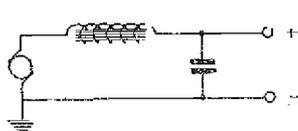
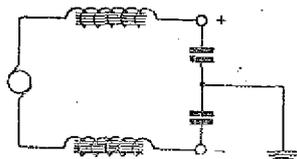

Fig. 1.—A simple method of reducing interference from a direct current machine.
Fig. 2.—Another filter circuit. Add another section if necessary.
From the circuit (Fig. 1) it will be seen that a loose coupled aerial tuner is used, and by means of "U" links the inductance valves of both aerial and closed circuits can be varied. Additional plug-in coils may be inserted in holders to extend the wave range to the broadcasting band and beyond.
Fig. 1.—The circuit is a detector valve with reaction followed by a note magnifier. The short wave tuning inductances are shown while loading coils may be added at A and B or inserted into the plug and socket connectors in place of the "U" links.
as provided by the earth wire, and if a counterpoise is not used, the leads shown dotted in Fig. 1 should be inserted. With a counterpoise the aerial and closed circuits are entirely separated.
In order to avoid any eventual trouble of this kind, I have carried out further experiments, and find that an equally good H.T. supply can be obtained from the mains by the method shown in Fig. 1.
- Shunt machine with condenser of the order of 4 microfarads if one side is earthed. Include a low-resistance choke of large inductance as shown in fig. 1. When machine is not earthed use methods of figs. 2 or 3. The machine terminal should not be earthed unless it is absolutely essential.